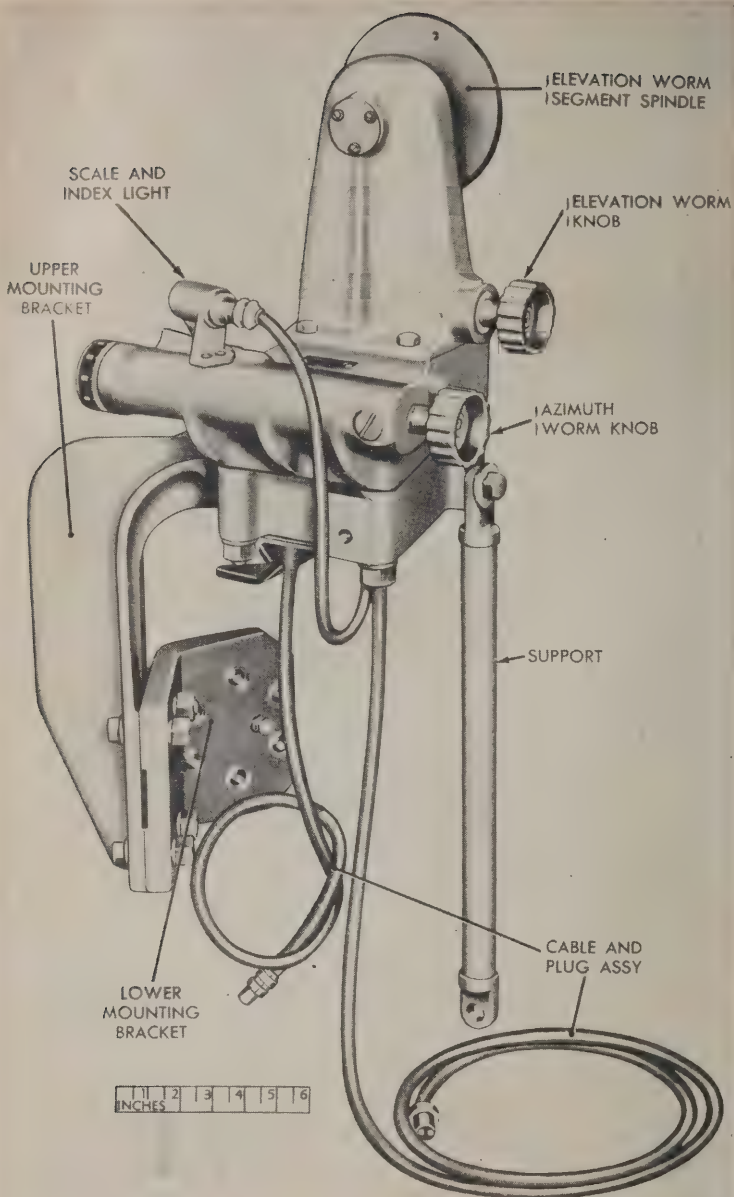

Figure 12. Telescope mount M52C—assembled view.
- (6) The telescope mounts M52C and M52D (figs. 12 and 13) are of the same basic design. They differ from the other mounts in this manual in that they have an azimuth mechanism, elevating mechanism, and a built-in lighting system.
*b. Elevation Worm Knob.* The elevation worm knob (figs. 12 and 13) will turn smoothly and evenly over the entire range of movement. A wobbly knob or a movement that is alternately tight and loose at each half revolution usually indicates a bent worm shaft. Upon reversal of the worm, there will be no appreciable free movement of the worm without corresponding movement of the driven member.
*c. Azimuth Worm Knob.* The azimuth worm knob (figs. 12 and 13)
*d. Cable Insulation.* The insulation on the cable assemblies (figs. 12 and 13) will be free from mold, breaks, abrasions, and exposed wires.
*e. Cable Plugs.* The plugs on the cable assemblies (figs. 12 and 13) will fit and lock properly in their respective sockets. The plugs will not be corroded, deformed, or loose on the cables.